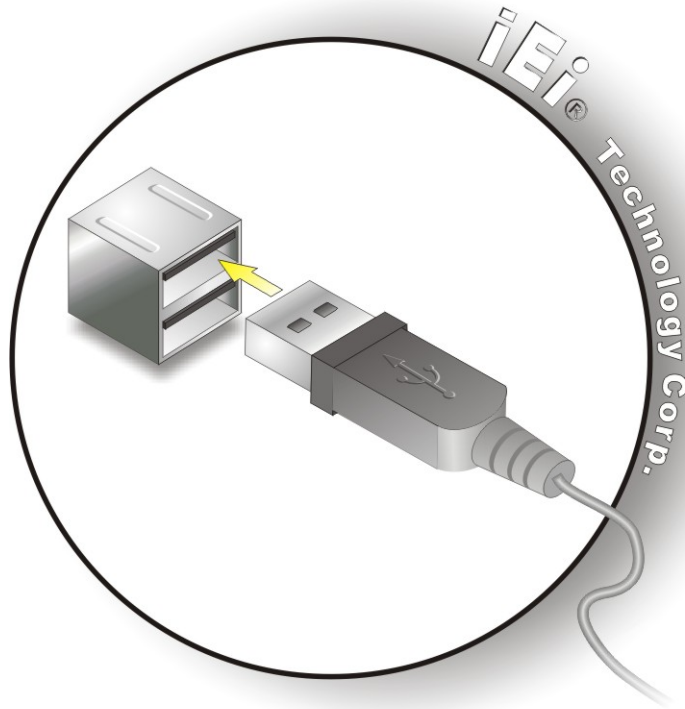

Figure 4-18: USB Connector
Step 2: Insert a USB Series "A" plug. Insert the USB Series "A" plug of a device into the USB Series "A" receptacle on the external peripheral interface. See Figure 4-18.